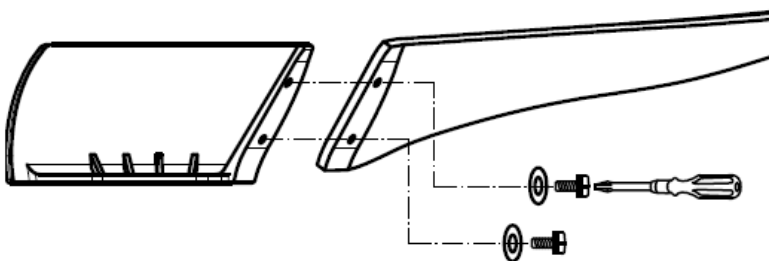

Fig. 7
- Secure the blade to the blade holder by tightening the 2 blade screws with washer. Fig.7